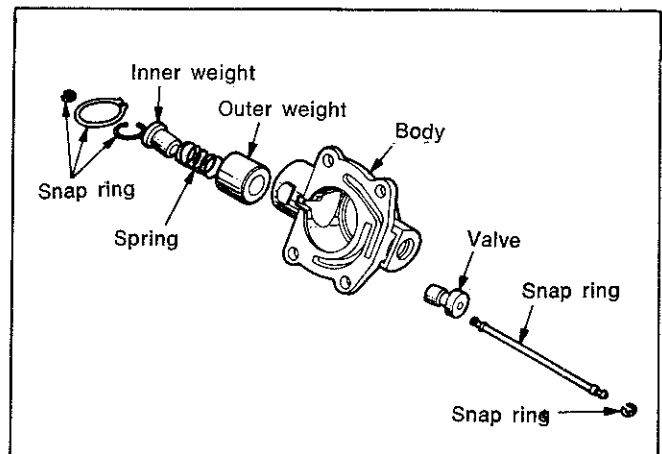

Fig. 28—Parking lock components
(1) Remove extension housing.
(2) Slide shaft out of extension housing to remove the parking sprag and spring (Fig. 28). Remove snap ring and slide the reaction plug and pin assembly out of the housing.
(3) To replace the parking lock control rod, refer to "Valve Body—Removal and Installation."
(1) Install reaction plug and pin assembly in the housing and secure with snap ring (Fig. 28).
(2) Position sprag and spring in housing and insert the shaft. Make sure square lug on sprag is toward parking gear, and spring is positioned so it moves sprag away from the gear.
(3) Install extension housing.